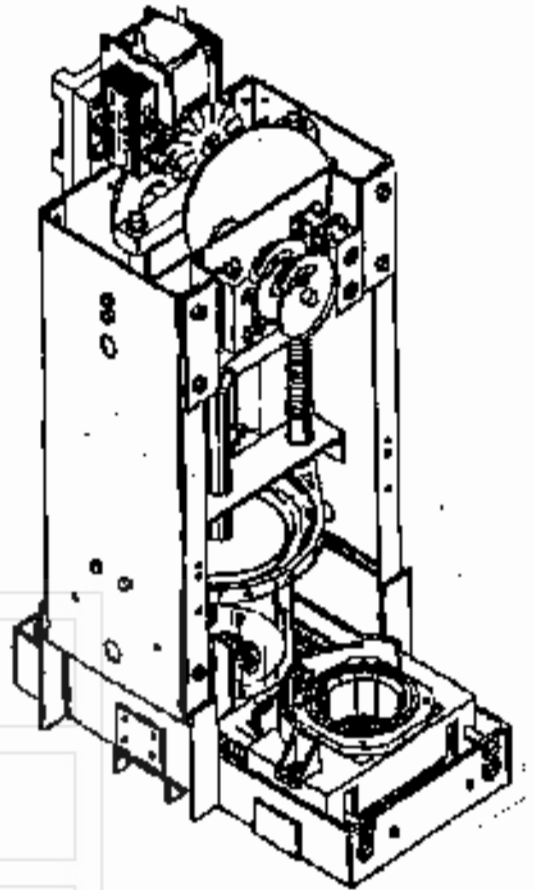

FIGURE 3.1
3. **COFFEE BREWER** - Cycle the brewer to the dump position by depressing its right rear roller switch (see Figure 3.1) until the brewer continuously runs on its own. When the brew carriage reaches the forward dump position, then toggle OFF the 16 amp circuit breaker. Remove splash guard from the front of the brewer. Using spray hose, rinse any loose grounds from brewer and splash guard. Replace splash guard and close swing out bracket then toggle ON circuit breaker.